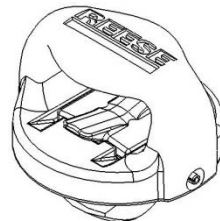
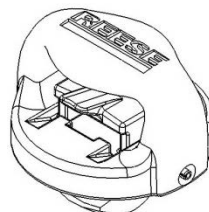

Figure 4 - Locked
Figure 5 - Unlocked
3. To install the Safety Chain Attachment – place the Safety Chain Attachment on top of the q-turn pucks (see Figure 6 below). Rotate the Safety Chain Attachment 90 degrees until the center lock drops into place (see Figure 4). To remove the Safety Chain Attachment lift the center lock and rotate the complete assembly 90 degrees (see Figure 5).